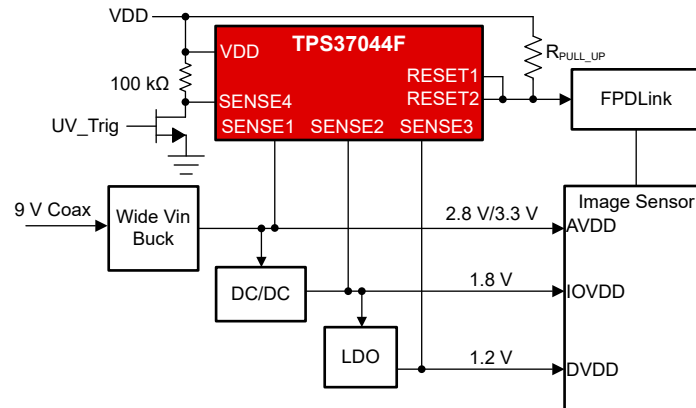

Figure 8-4. TPS37044F Quad-Channel Monitoring With Manual Self-Test Option for Functional Safety
Figure 8-4 displays a self-test scheme where a manual self-test function can be implemented. Any SENSEx pin can be reserved and used to trigger a fault to be observed at the output, thus pre-checking the TPS3704 for fault detection. TPS3704 is a functional safety compliant multichannel supervisor and enables applications such as factory automation and motor drive achieve IEC 61508 requirements and industrial safety integrity levels. This example uses a TPS37044F, configured for separate undervoltage and overvoltage (UV/OV) outputs where the SENSE4 thresholds are set at 5.5 V for OV and 2 V for UV.
Figure 8-4 shows a self-test scheme where a manual self-test function can be implemented. SENSE4 has an overvoltage (OV) threshold that is set at 5.5 V and the undervoltage (UV) threshold set at 2 V. SENSE4 can be connected via a 100-k Ω resistor to VDD. The self-test setup gives the added benefit of a built-in overvoltage detector for the rail powering the TPS37044F. From a functional safety perspective, a voltage supervisor cannot be considered reliable if the supervisor is operating outside its recommended operated limits.